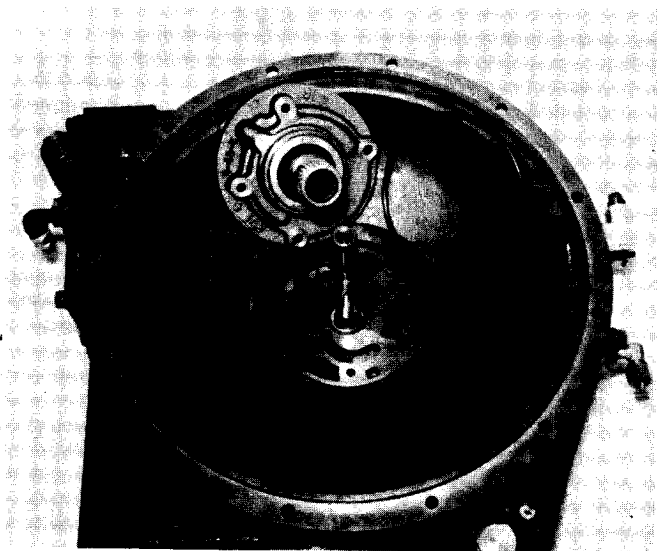

Fig. No. 8
Turn the housing (13) over on the output side protecting the edges of the casting from bench damage. In this position the 4 wired screws (4 & 5) can be removed from the pump body (2). NOTE: Two of these screws are longer than the others, however they all use special "Dynaseal" washers (6). The pump (2) can now be lifted out. Also, the pump "O" ring (8) and collector block (9), Fig. No. 7 can be removed. Be careful not to damage the edges of the collector block; it must be a good fit in the housing. Fig. No. 8 shows the pump assembly, "O" ring removed and the collector block in place.